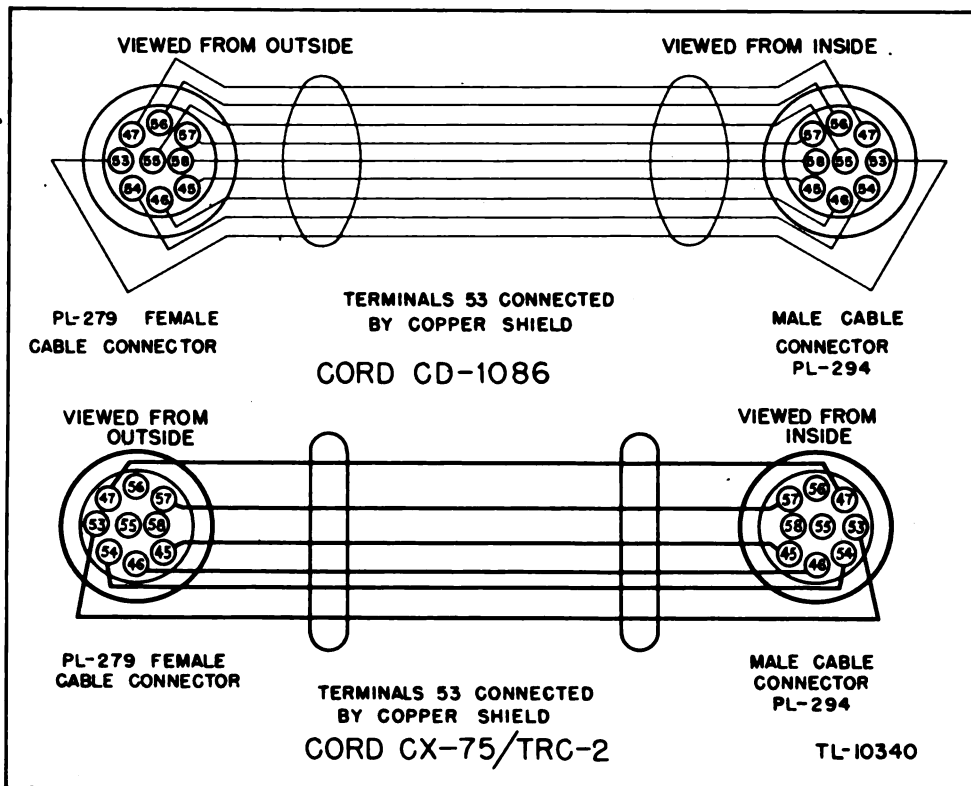

Figure 49—Cord CX-75/TRC-2 and Cord CD-1086
f. The power cable may have one or more broken connections. Try substituting the spare cable (Fig. 49).